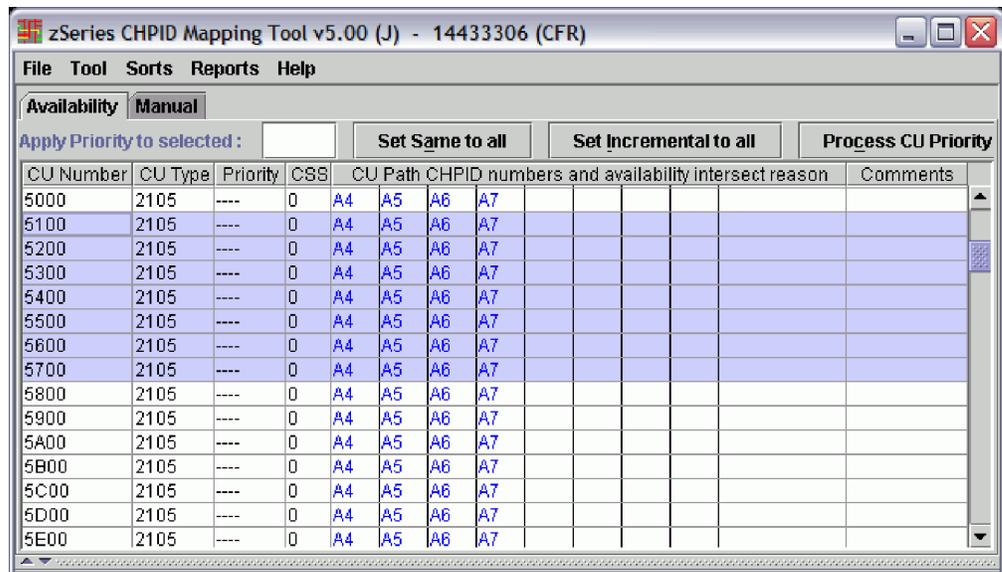

Figure 38. Making Selections on the Availability Panel
- b. To select other individual lines press Ctrl while clicking, or to select a block of lines press Shift while clicking. Figure 38 on page 37 shows the selection of multiple lines.